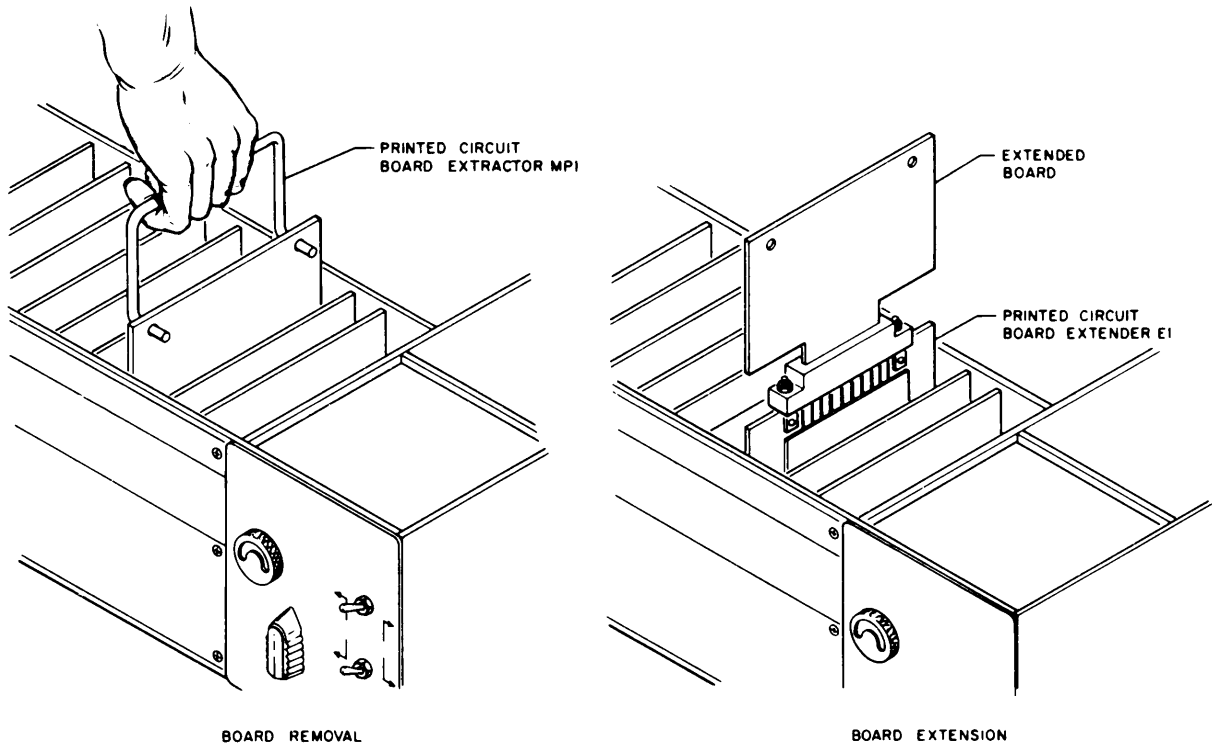

Figure 5-1. Printed Circuit Board Removal and Extension
c. EXTENDING PRINTED-CIRCUIT BOARDS. — In order to gain access to all adjustments, test points and parts, certain printed-circuit boards must be extended. For this purpose, a printed-circuit board extender is supplied. When extended, all parts of the printed-circuit board are exposed while electrical connection is maintained. Refer to figure 5-1 and proceed as follows: